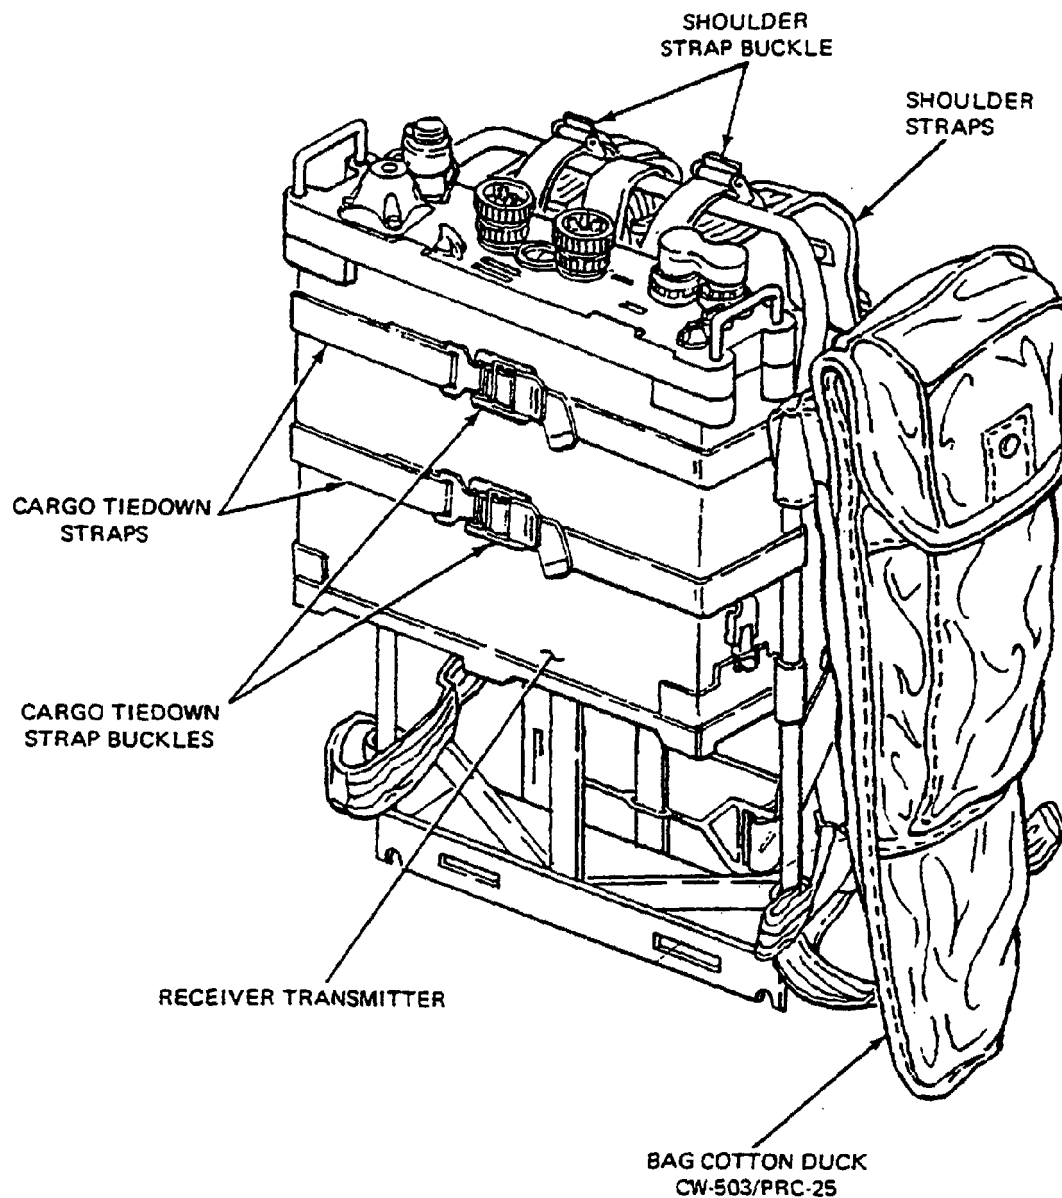

Figure D-7. Installation of Receiver-Transmitter in LC-2
a. Attach the LC-2 (Figure D-7) to the receiver-transmitter as instructed in (1) thru (4) below.